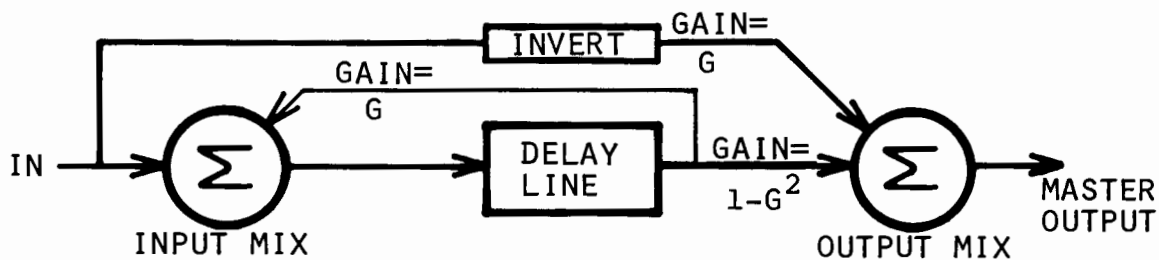

FIG. 3.7 SCHEMATIC REPRESENTATION OF SCHROEDER SECTION
M.93 incorporates three methods of combatting these effects. The first is that of setting the delays to prime number values, identified by the PRIME indicator. Relatively prime delays insure that there are no common factors and consequently a minimum number of repetitive delay patterns which contribute to unnatural side effects. Second, a small amount of automatic VCO cycling randomizes the delays to break up repetitive delay patterns. However, the FREQUENCY must be low enough and the DEPTH must be shallow enough so as not to introduce any audible "doppler" or flanging effects. Finally, the invert function on the input signal at the OUTPUT MIXER enables a Schroeder\* "all-pass" filter to be constructed. This is a technique of providing smooth frequency response through a system of recirculated and delayed signals. It turns out that the input invert function provides a qualitative improvement even though the exact amplitudes prescribed by Schroeder are not duplicated. See FIG 3.7. These methods all contribute to a smoother, more realistic simulation of room ambiance.